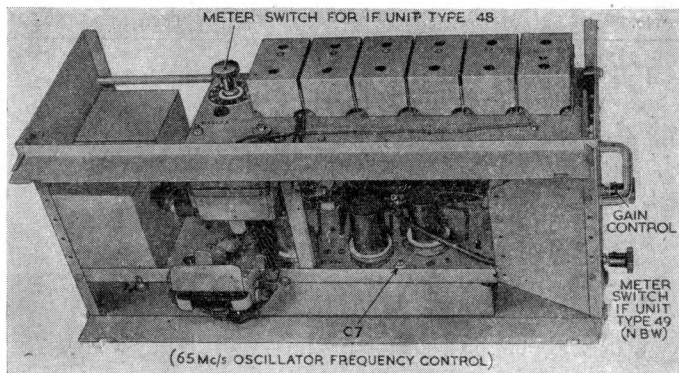

Fig. 34. IF unit Type 34A : interior
- (3) Withdraw IF unit Type 34A and identify the oscillator control C7 which is between V1 and V2 (*fig. 34*). Tune C7 for maximum signal amplitude.
- (4) Switch off the N.B.W. key and note the effect of this on the signal. If the signal decreases in amplitude, adjust the GAIN control on the front panel of IF unit Type 34A. Repeat this operation until there is no difference in signal amplitude as the N.B.W. key is switched in and out.